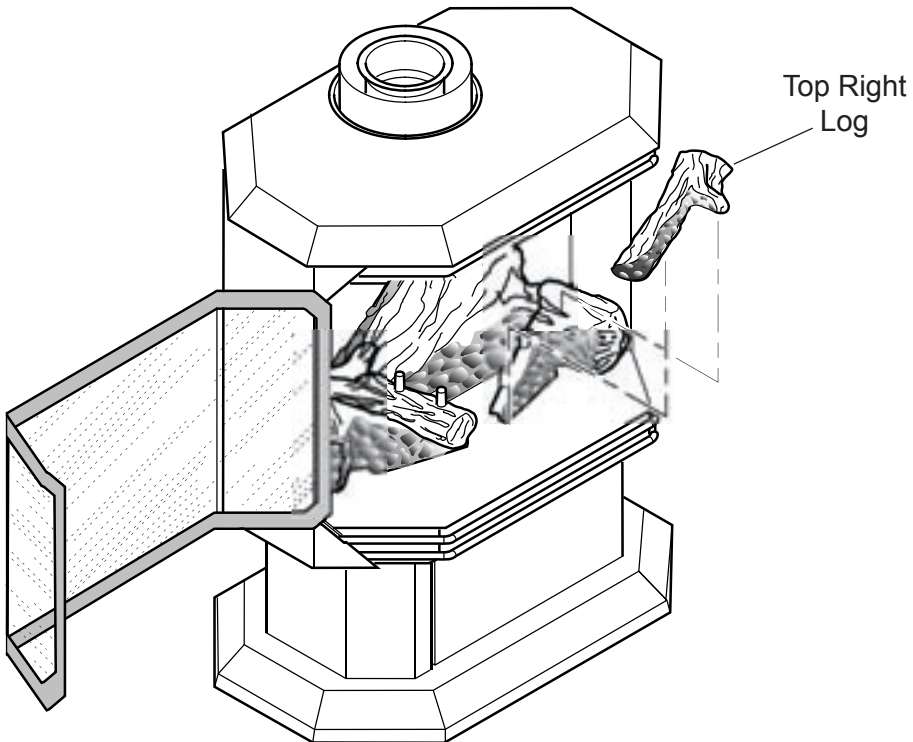

Figure 36 - Installing Top Right Log
7. Place top right log on right base log. Line up the holes in the bottom of the top log with the locating pins on the bottom log. *See Figure 36.*